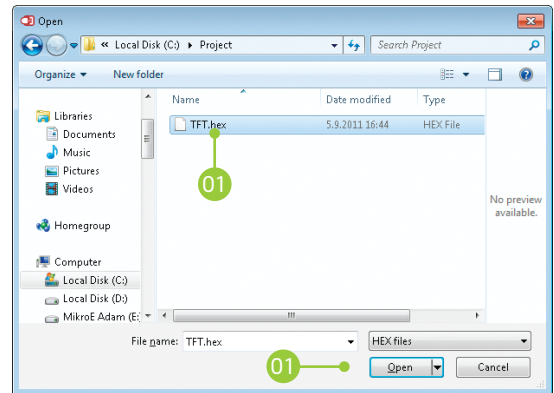

Figure 3-5: Selecting HEX
- 01 Click the **"Browse for HEX"** button and from a pop-up window (Figure 3.5) choose the .HEX file which will be uploaded to MCU memory.